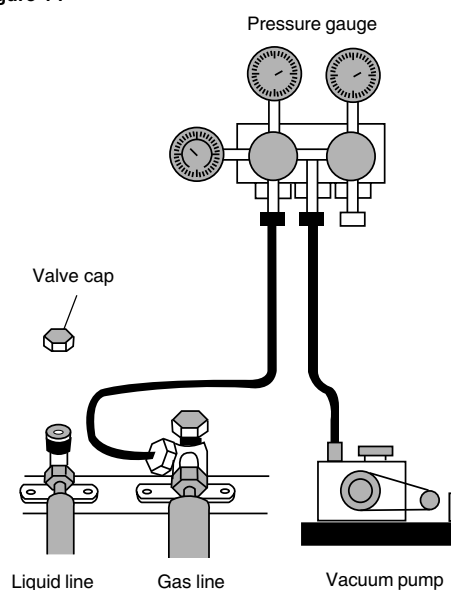

Figure 15
10. If possible, discharge air and moisture remaining in the refrigerant system with a vacuum pump. (shown in Figure 15)